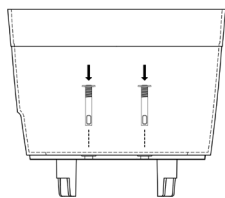
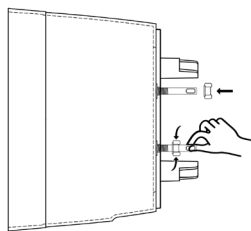

Figure 6
Figure 7
3. Insert the wick inserts from above into the wick holes in the upper soil compartment of the pot so that the wicks reach down into the water reservoir (see Fig. 6 for the example Boum Pot 13 L Pro). Fix the wick inserts from below using the nuts (see Fig. 7).